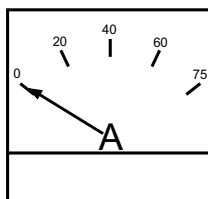

Figure 58. Ammeter (No Load)
15. The ammeter (Figure 58) will indicate zero amps with no load applied. When a load is applied, this meter will indicate the amount of current that the load is drawing from the generator's alternator.